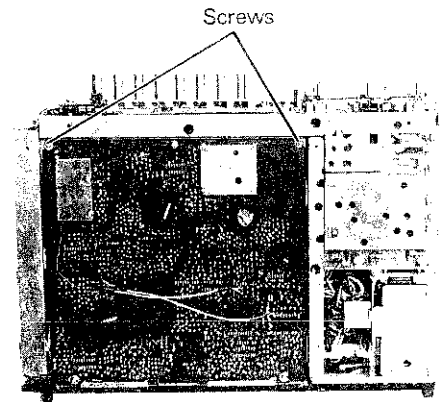

Fig. 4-10
1. Remove the two screws on the printed circuit board as shown in Fig. 4-10.